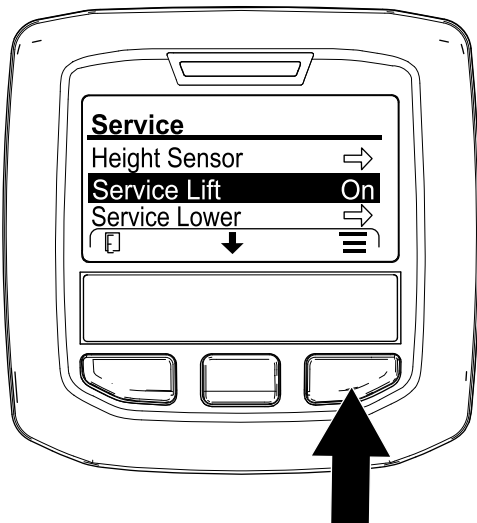

Figure 131
4. Press the center InfoCenter button until the SERVICE LIFT option is selected (Figure 131), press the right button.